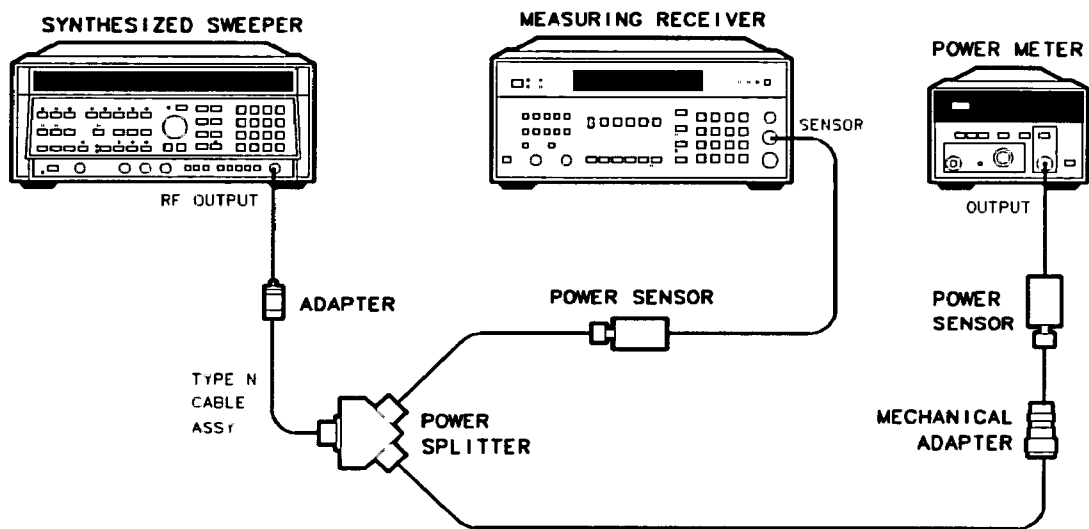

Figure 3-2. System Characterization Test Setup (Option 001)
4. Connect the equipment as shown in Figure 3-2.